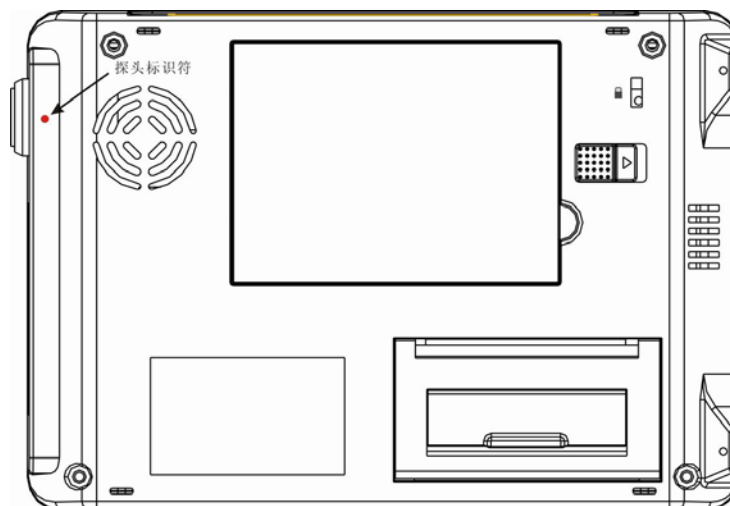

Figure 4-2 PadScan HD3 probe and main unit connection diagram
- Connect the probe to the main unit. Align the red dot on the probe with the red dot on the back of the main unit, and insert the probe into the main unit as figure 4-2.